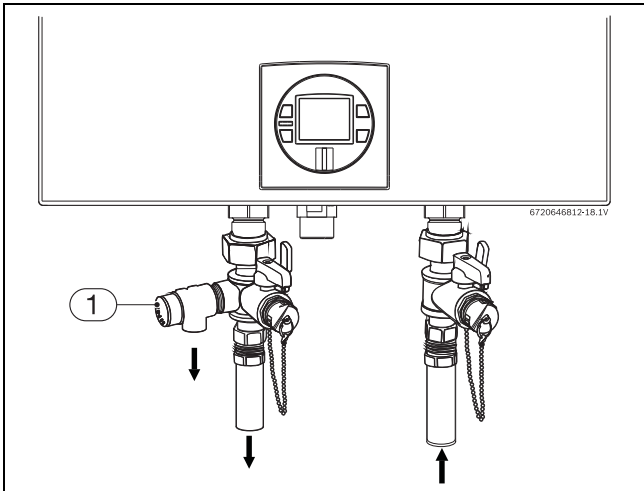

Fig. 36 Plumbing Connections (with shutoff valves) and Pressure Relief Valve
- Full port shutoff valves should be installed on both the cold water supply and hot water outlet lines to facilitate servicing the heater (see fig. 36).
A listed pressure relief valve must be installed at the time of installation. No valve is to be placed between the PRV and the heater. No reducing coupling or other restriction may be installed in the discharge line. The discharge line must be a minimum of 4" above a drain and installed such that it allows complete drainage of both the PRV and the line. The discharge line must be placed where it will not cause any damage. The location of the PRV must be readily accessible for servicing or replacement, and be mounted as close to the water heater as possible. See fig. 36. To install the PRV, a suitable fitting connected to an extension on a "T" fitting can be sweated to the hot water line. Support all piping.